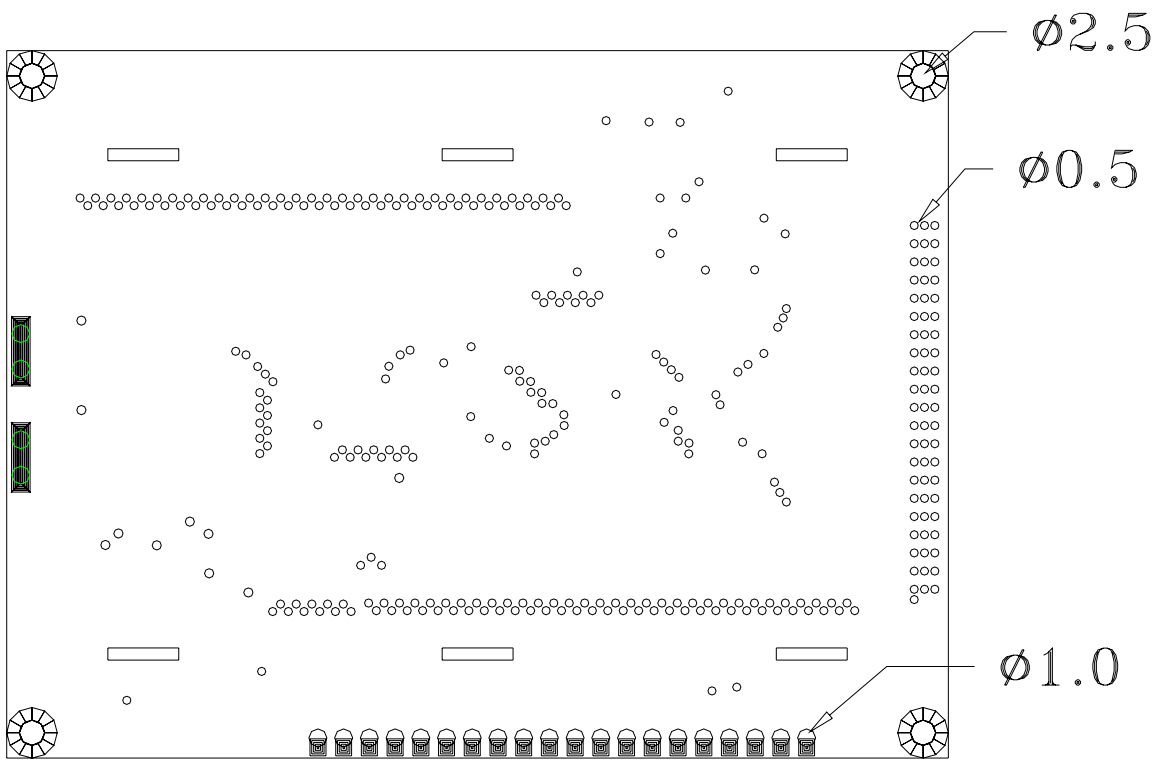

Figure 1-2
3. PCB Hole drawing:(Figure 1-2)